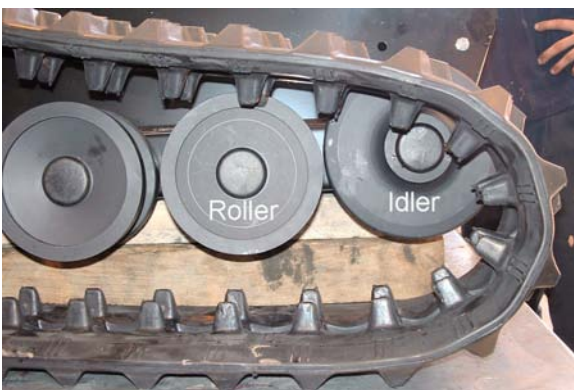

Fig 5-38 Idler touching roller
5. Adjust jacking bolts until idler is almost touching roller (Fig 5-38).